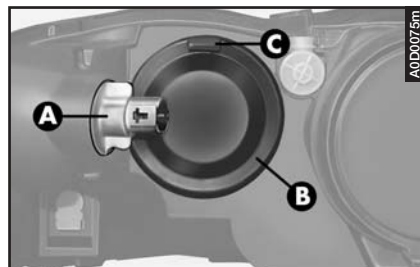

fig. 45
- Turn counter-clockwise and remove the direction indicator bulb holder (**A-fig. 45**) without disconnecting the connector to widen the working space.